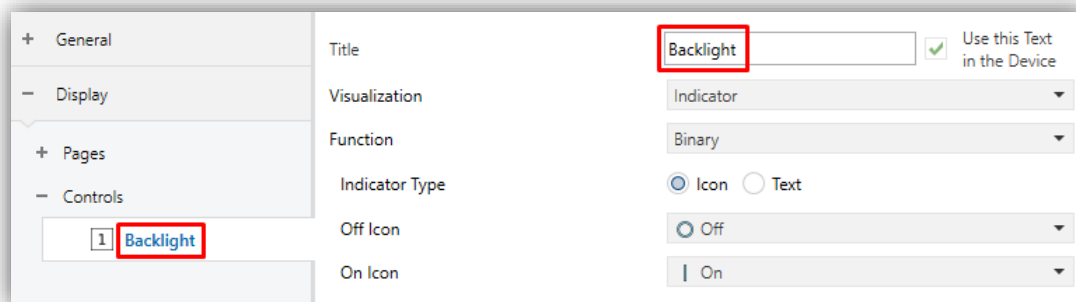

Figure 52. Control *i*
- **Title:** text field that identifies each of the enabled controls. In addition, this field allows changing the name of the tab in ETS left menu, as shown in the Figure 52.